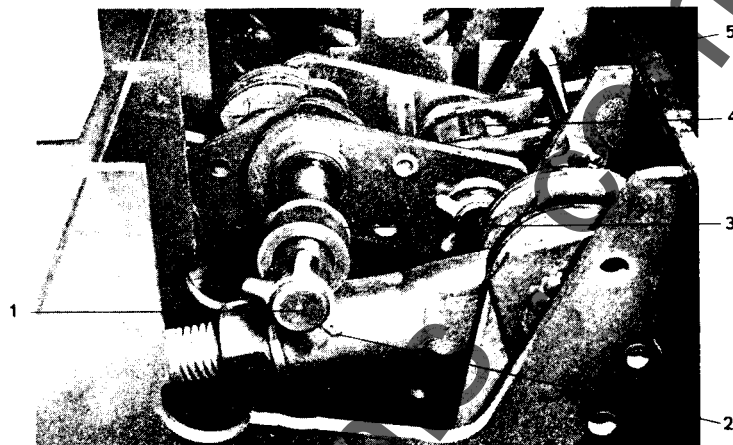

Fig. A12 Toggle Pin and Trip Roller
The toggle pin, (1) Fig. A12, may be replaced by removing the pin retaining ring on the end of the pin nearest the front of the breaker mechanism and pulling the pin out of the toggle linkage toward the back of the breaker mechanism. **THIS MUST BE DONE WITH THE BREAKER OPEN AND THE CLOSING SPRING CHARGED AND GAGGED.** Retain the spacers, (3) Fig. A12, for reuse.
The trip roller, (4) Fig. A12, may be replaced by first removing the toggle pin and then removing the toggle positioning pin, (5) Fig. A12. Remove the pin retaining ring nearest the front of the breaker mechanism on the pin which mounts the trip roller to the toggle linkage. Pull the pin toward the rear of the breaker mechanism, until the trip roller can be removed.